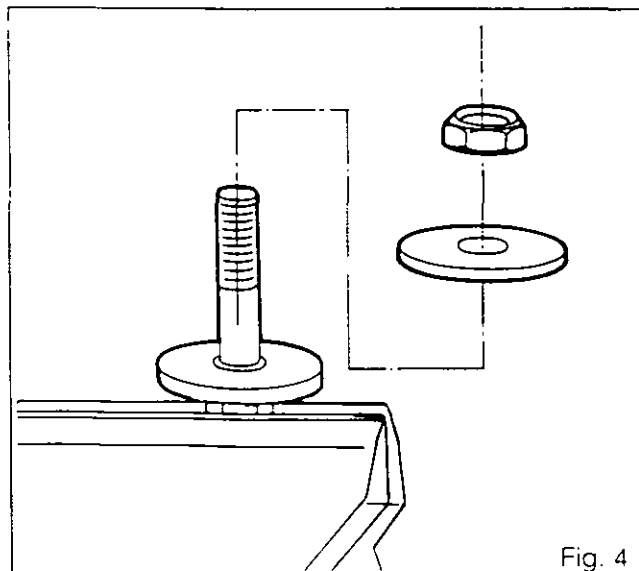
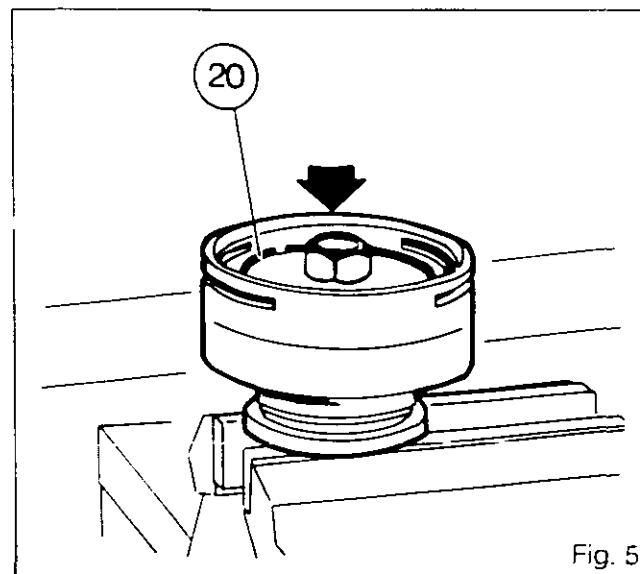

Fig. 4
Fig. 5
3. Grip the tool (Fig. 4) made up locally (see Section J) in a vice. Locate the release bearing carrier on the tool.
4. Screw up the nut on the tool to compress the spring washer (22).
5. Press the circlip (20) near the centre with a small screwdriver.
6. (Fig.5) Press on the carrier (9) and remove the circlip (20).
7. Remove the washer (21), the spring washer (22) and the release bearing (23) from the carrier.